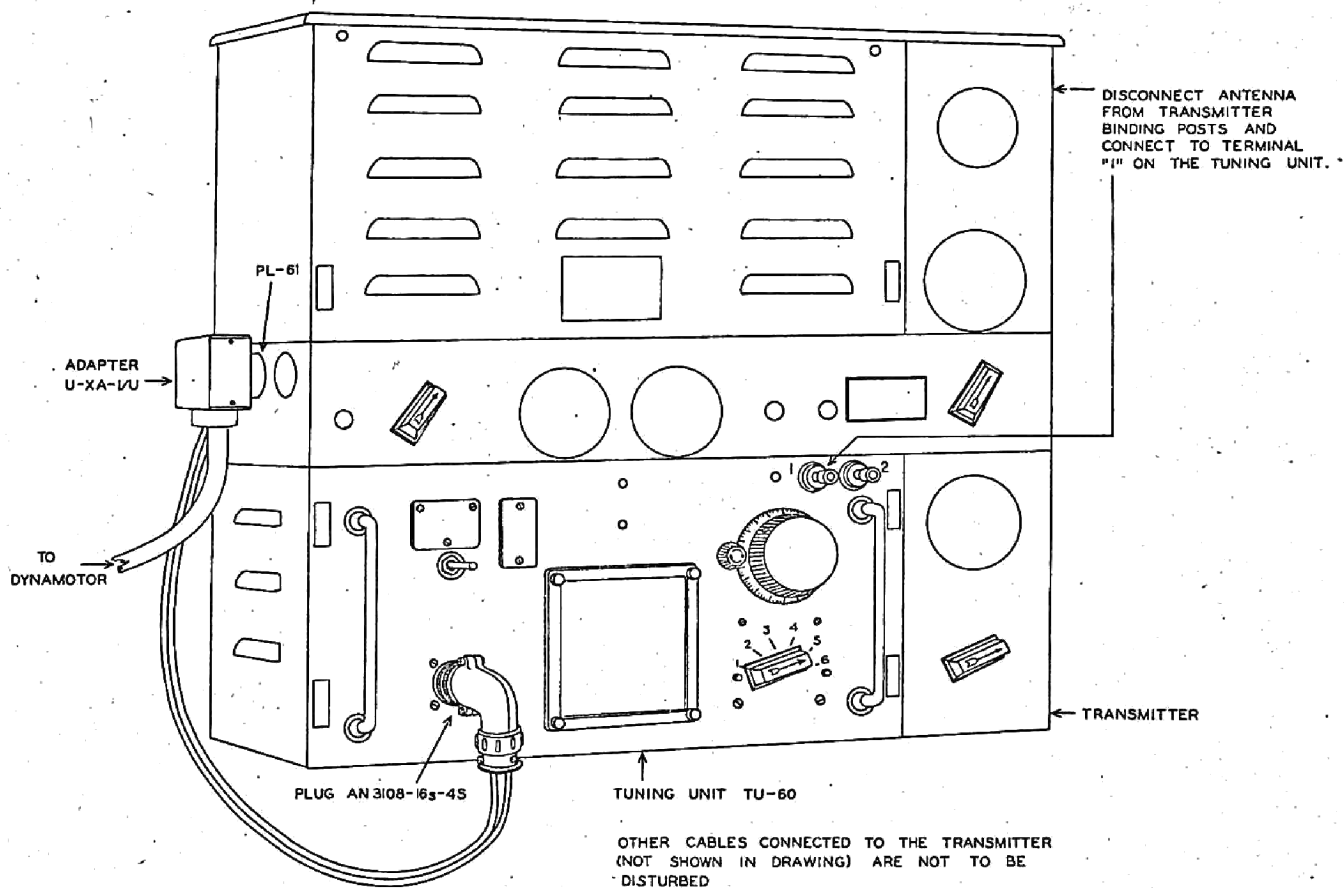

Figure 2—Transmitter Tuning Unit TU-60, Cording Diagram
associated radio transmitter so that the front panel of the tuning unit forms a part of the front panel of the transmitter. (See fig. 2.)
(1) Remove Plug PL-61 (located on the end of the dynamotor cable) from the left side of the transmitter and insert it in the socket provided on Adapter U-XA-1/U. (See fig. 2.)
(2) Plug Adapter U-XA-1/U into the socket on the transmitter from which Plug PL-61 was removed. (See fig. 2.)
(3) Insert plug AN3108-16s-4S, located on the end of the cable connected to the adapter, in receptacle AN3102-16s-4P provided on the front panel of the tuning unit. Tighten the locking ring.
(4) Disconnect the antenna from the binding posts on the right side of the transmitter and connect it to terminal "1" on the tuning unit. (See fig. 2.)